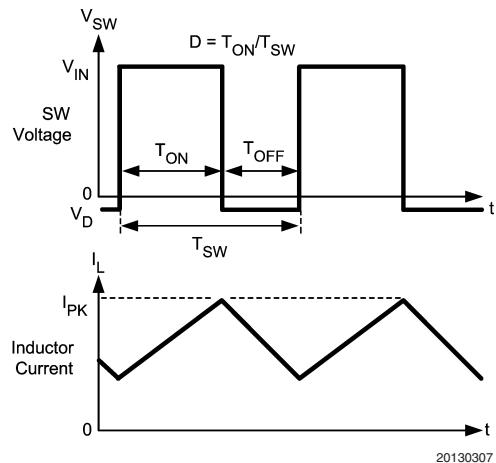

FIGURE 2. LM2734Z Waveforms of SW Pin Voltage and Inductor Current
The following operating description of the LM2734Z will refer to the Simplified Block Diagram (*Figure 1*) and to the waveforms in *Figure 2*. The LM2734Z supplies a regulated output voltage by switching the internal NMOS control switch at constant frequency and variable duty cycle. A switching cycle begins at the falling edge of the reset pulse generated by the internal oscillator. When this pulse goes low, the output control logic turns on the internal NMOS control switch. During this on-time, the SW pin voltage (V_{SW}) swings up to approximately V_{IN} , and the inductor current (I_L) increases with a linear slope. I_L is measured by the current-sense amplifier, which generates an output proportional to the switch current. The sense signal is summed with the regulator's corrective ramp and compared to the error amplifier's output, which is proportional to the difference between the feedback voltage and V_{REF} . When the PWM comparator output goes high, the output switch turns off until the next switching cycle begins. During the switch off-time, inductor current discharges through Schottky diode D1, which forces the SW pin to swing below ground by the
In the Simplified Block Diagram of *Figure 1*, capacitor C_{BOOST} and diode D2 supply the gate-drive current for the NMOS switch. Capacitor C_{BOOST} is charged via diode D2 by V_{IN} . During a normal switching cycle, when the internal NMOS control switch is off (T_{OFF}) (refer to *Figure 2*), V_{BOOST} equals V_{IN} minus the forward voltage of D2 (V_{FD2}), during which the current in the inductor (L) forward biases the Schottky diode D1 (V_{FD1}). Therefore the voltage stored across C_{BOOST} is